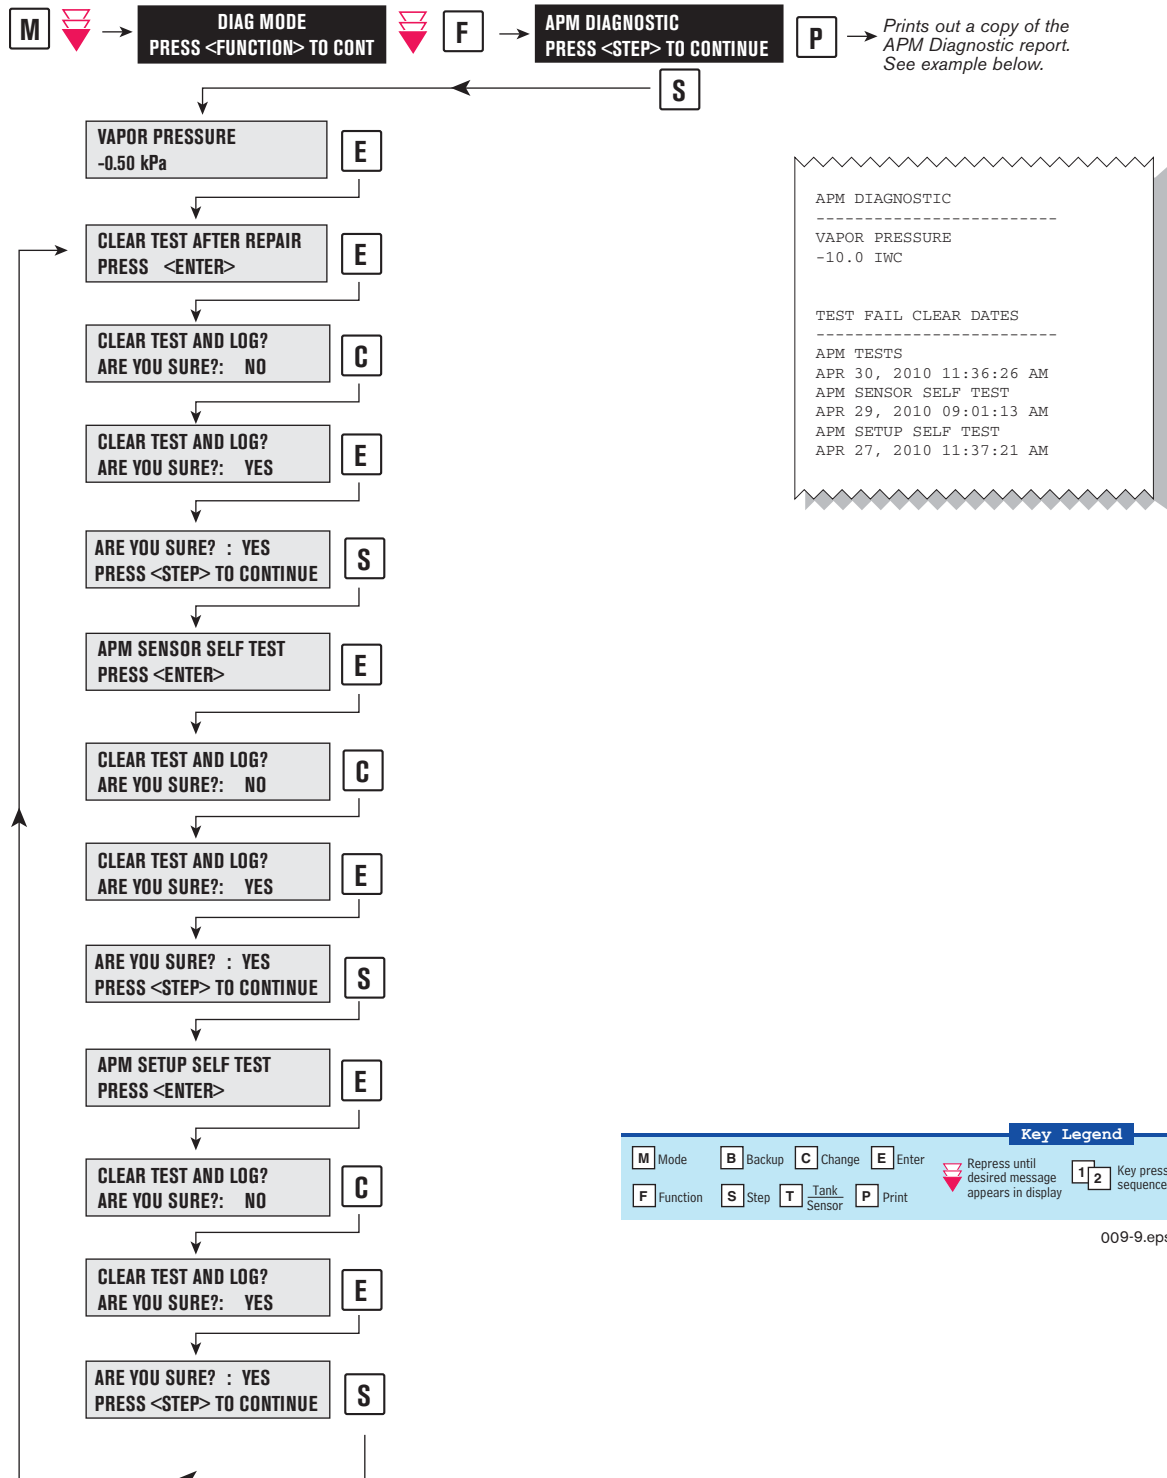

Figure 18. APM Diagnostic Menu
3. On the TLS Console front panel, use the 'MODE key' to scroll to "DIAG MODE" then use the function and step keys, as shown in Figure 18 to view the current pressure value. Verify that the pressure value is between +0.05 and -0.05 kPa.